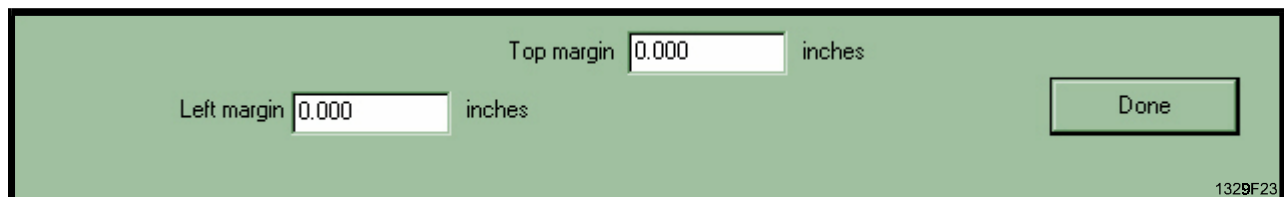

Figure 29: Margins Screen (X1/X3)
3. **Margins** - Click on "MARGINS" in the Print menu. The Margins Screen will be displayed (Figure 29).